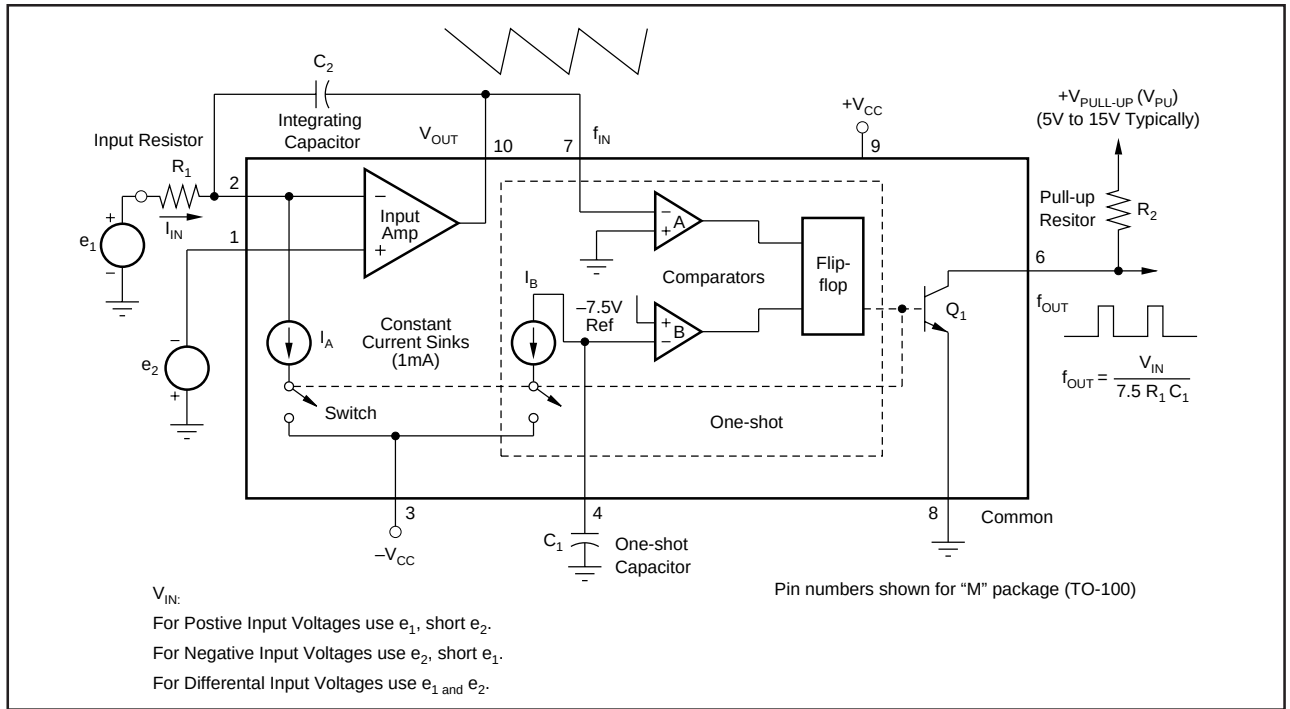
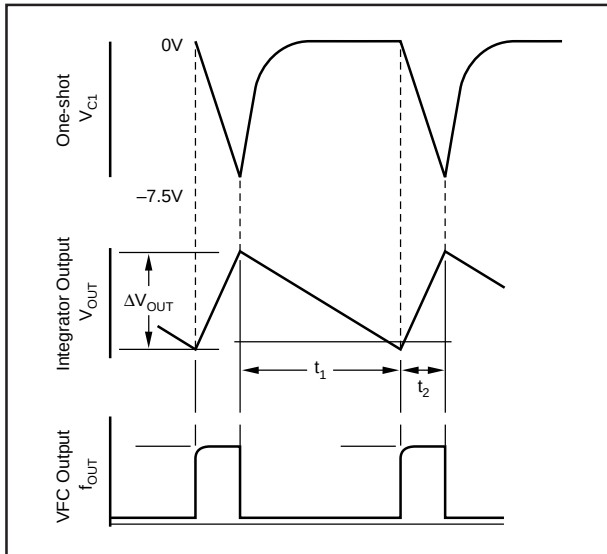

FIGURE 4. Functional Block Diagram of the VFC320.
FIGURE 5. Integrator and VFC Output Timing.
| V/F CONVERTER $f_{OUT} = V_{IN}/7.5 R_1 C_1$ , Figure 4                                                                                                                                                                                                                                                             |                                                                                                                                                                                                                                                                                    |                                        |                          |                                        |                      |                   |                    |                                                                                           |
| INPUT TO OP AMPVoltage Range (1)Current Range (1)Bias CurrentInverting InputNoninverting InputOffset Voltage (3)Offset Voltage DriftDifferential ImpedanceCommon-ModeImpedance                                                      | Fig. 4 with $e_2 = 0$Fig. 4 with $e_1 = 0$$I_{IN} = V_{IN}/R_{IN}$                                                                                                                                                                                                         | >0<0+0.25                      |                          | Note 2−10+750                  | *                    |                   | *                  | VVμA                                                                              |
| ACCURACYLinearity Error (1) (4) (5)Offset Error InputOffset Voltage (3)Offset Drift (7)Gain Error (3)Gain Drift (7)Full Scale Drift(Offset Drift and Gain Drift) (7)(8)(9)Power Supply Sensitivity | Fig. 4 with $e_2 = 0$ (6)$0.01\text{Hz} \leq f_{OUT} \leq 10\text{kHz}$$0.1\text{Hz} \leq f_{OUT} \leq 100\text{kHz}$$1\text{Hz} \leq f_{OUT} \leq 1\text{MHz}$$f = 10\text{kHz}$$f = 10\text{kHz}$$\pm V_{CC} = 14\text{VDC}$ to 18VDC |                                        | ±0.004±0.008±0.1 | ±0.005±0.030                       |                      | ±0.0015** | ±0.002**   | % FSR% FSR% FSRppm FSRppm FSR/°C% FSRppm FSR/°Cppm FSR/°C |
| OPEN COLLECTOR OUTPUTVoltage, Logic “0”Leakage Current, Logic “1”Voltage, Logic “1”Duty Cycle at FSFall Time                                                                                                                                                                         | $I_{SINK} = 8\text{mA}$ , max$V_O = 15\text{V}$External Pull-up ResistorRequired (See Figure 4)For Best Linearity$I_{OUT} = 5\text{mA}$ , $C_{LOAD} = 500\text{pF}$                                                                                            |                                        | 0.01                     | 0.41.0$V_{PU}$             |                      | ***       | ***        | VμAV%ns                                                               |
The VFC320 monolithic voltage-to-frequency converter provides a digital pulse train output whose repetition rate is directly proportional to the analog input voltage. The circuit shown in Figure 4 is composed of an input amplifier, two comparators and a flip-flop (forming a on-shot), two switched current sinks, and an open collector output transistor stage. Essentially the input amplifier acts as an integrator that produces a two-part ramp. The first part is a function of the input voltage, and the second part is dependent on the input voltage and current sink. When a positive input voltage is applied at  $V_{IN}$ , a current will flow through the input resistor, causing the voltage at  $V_{OUT}$  to ramp down toward zero, according to  $dV/dt = V_{IN}/R_1C_1$ . During this time the constant current sink is disabled by the switch. Note, this period is only dependent on  $V_{IN}$  and the integrating components.
The transfer function for the VFC320 is derived for the circuit shown in Figure 4. Detailed waveforms are shown in Figure 5.
In general, the design sequence consists of: (1) choosing  $f_{MAX}$ , (2) choosing the duty cycle at full scale ( $D_{FS} = 0.25$  typically), (3) determining the input resistor,  $R_1$  (Figure 4), (4) calculating the one-shot capacitor,  $C_1$ , (5) selecting the integrator capacitor  $C_2$ , and (6) selecting the output pull-up resistor,  $R_2$ .